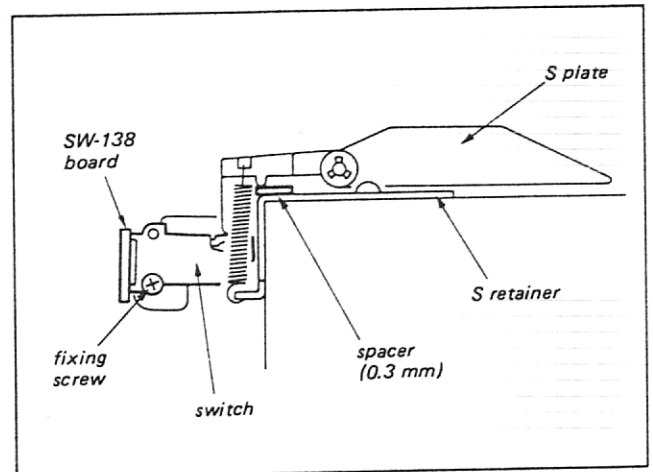

Fig. 7-4
1. Put the 0.3 mm spacer between the S plate and the S retainer as shown in Fig. 7-4.